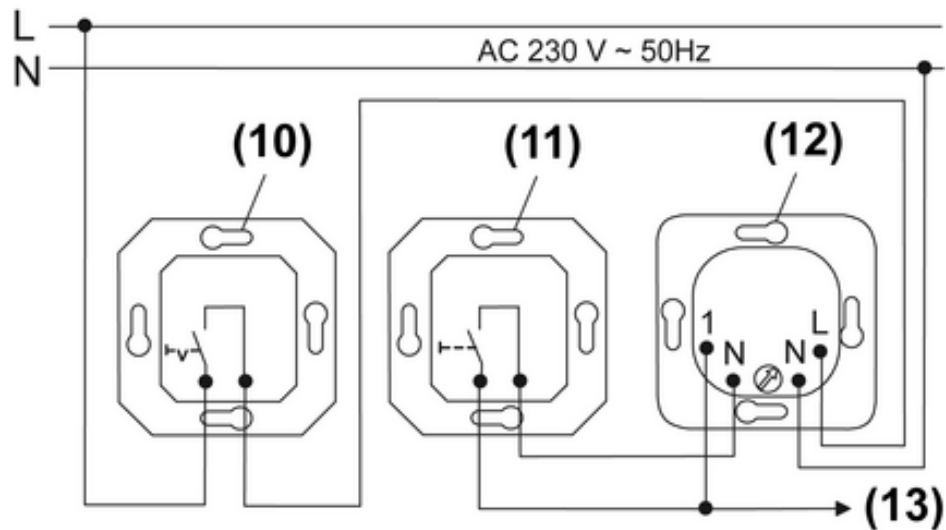
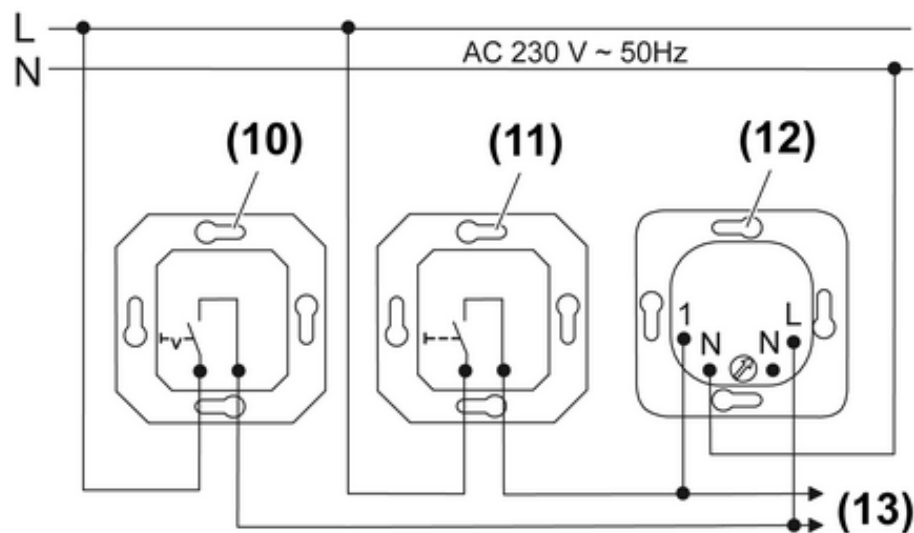

Figure 4: Connection example for colour changeover via neutral conductor
Figure 5: Connection example for colour changeover via phase conductor
The following circuit examples show two options for installing the orientation light. In connection example (Figure 4) the neutral conductor is keyed on control input "1" in order to implement the colour changeover. In connection example (Figure 5) the phase conductor is keyed to control input "1" in order to implement the colour changeover.
- Connect orientation light according to connection example (Figure 4) or (Figure 5).
- Connect additional orientation lights with the first orientation light via (13).
- Mount the insert (12) in an appliance box. The terminals must be at the bottom.